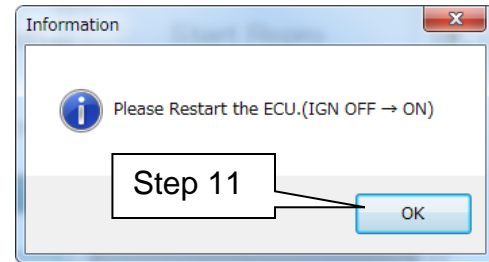
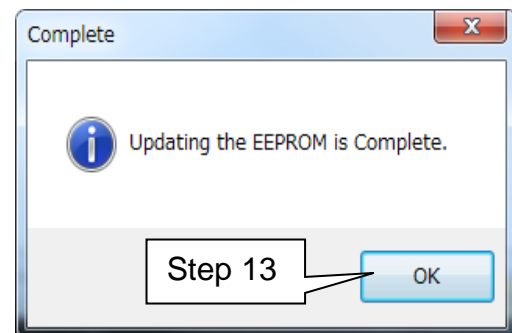

Figure 16
Figure 18
- After selecting OK in Figure 16, the OCS reprogramming will likely complete items 5 through 7 quickly (see “Complete” screen, Figure 18 below).
12 When this screen displays (Figure 18), OCS reprogramming is complete.